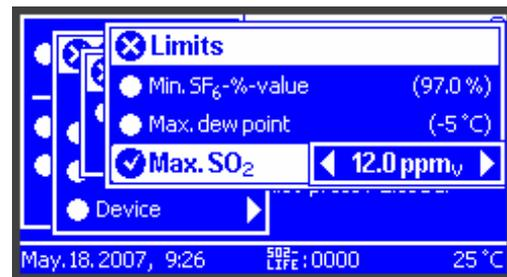

Fig. 6.19
- Limits (Data acquisition / Limits) (fig. 6.19)
Date / Time (Settings / Date/Time) (fig. 6.19)